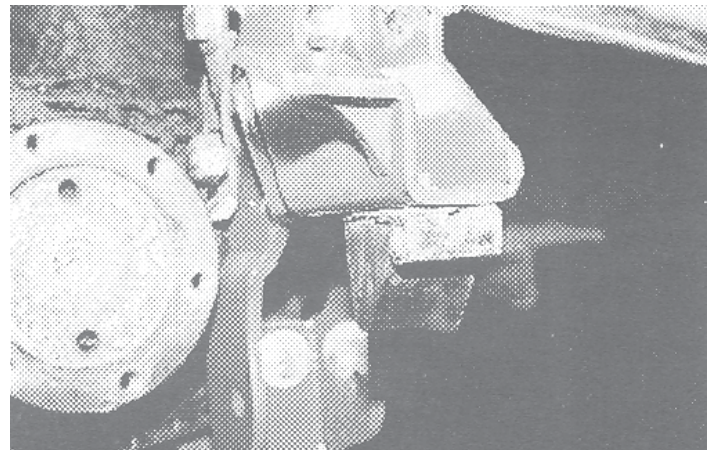

Fig. 37
36. Install OE compression stops on bottom of brackets "LR" and "RR". Torque to specification. **Fig. 37.**